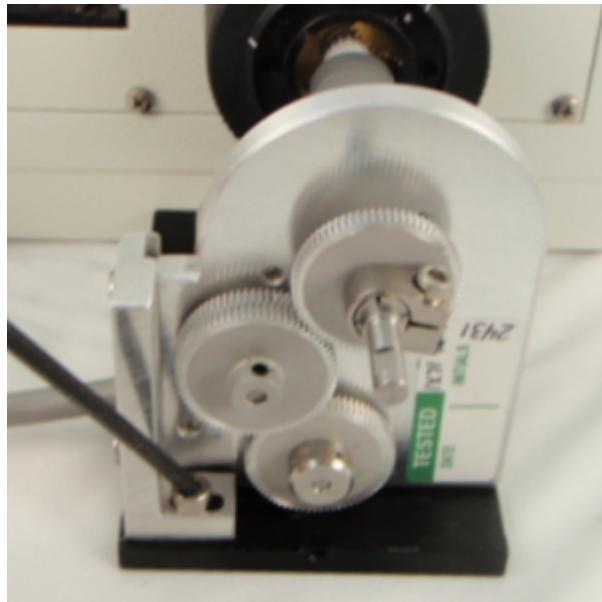

Figure 4b
- b) Once aligned, secure the motor drive into position by tightening the horizontal and vertical adjustment screws(figures 4b & 4c).